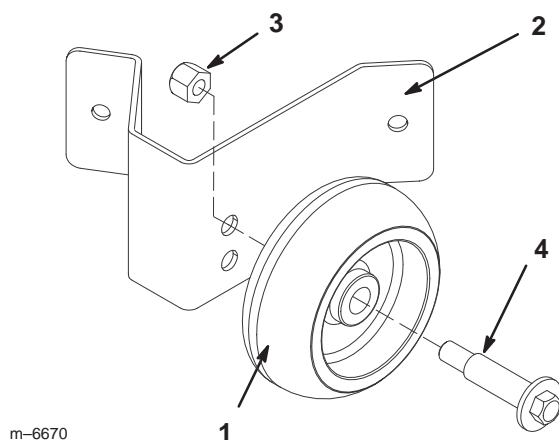

Figure 1
1. Assemble the gage wheel and the bracket using the wheel bolt and lock nut, 3/8 inch (Fig. 1). Use the same hole for both brackets.
1. To change the height of the mower front wheels, remove the wheel mounting bolt and change the hole into which the wheel is mounted (Fig. 1).
2. Use the top hole for the lowest cutting height and the bottom hole for higher cutting heights (Fig. 1).